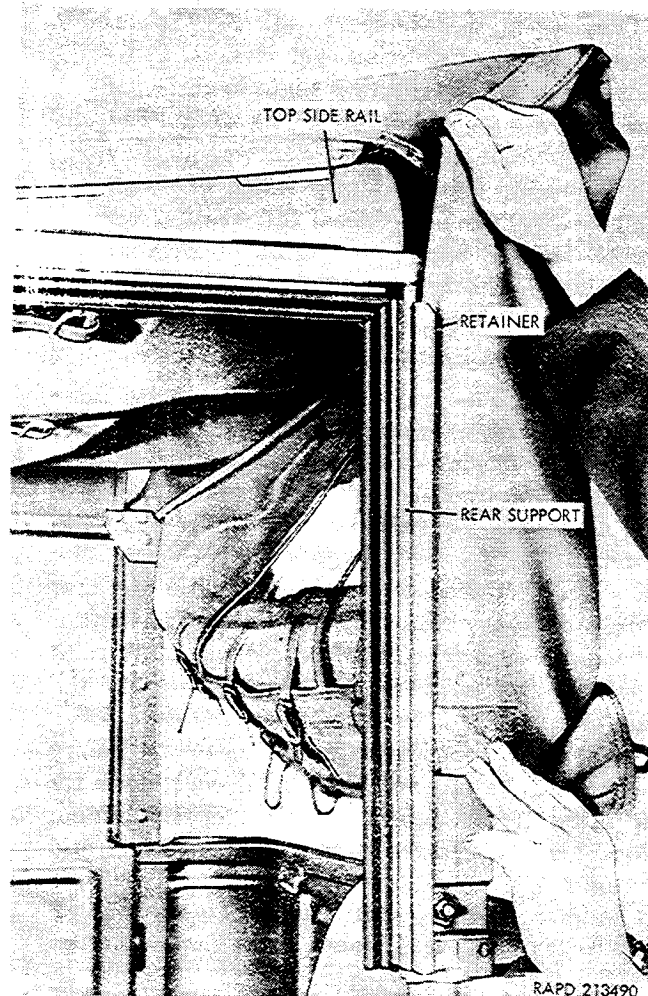

Figure 2-193. Removing top cover from side rail support.
(4) Pull the cover up to remove it from the retainers on the left and right side rail rear supports (fig. 2-193).
(6) Insert the sides of the cover in the upper ends of the retainers on the left and right rear supports (fig. 2-193), and pull the cover down.